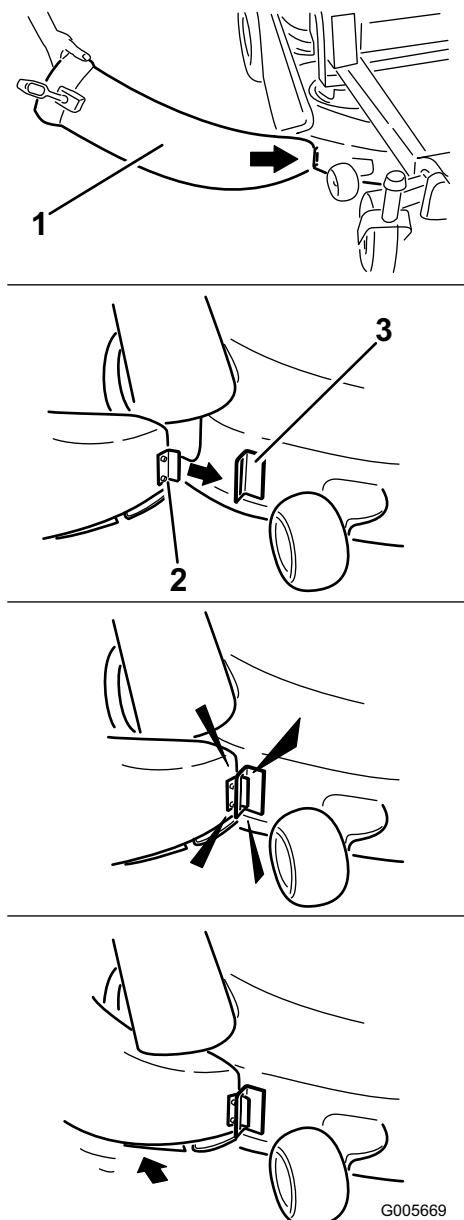

Figure 11
4. Angle the metal tab at the front of the chute into the slot in the bracket welded to the mower deck just in front of the cutoff (Figure 11).
5. Pivot the chute back and toward the deck so chute is flush with the mower deck (Figure 11).